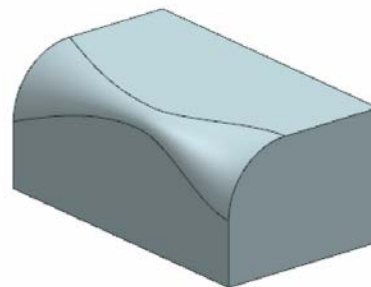

Figure 6-70 The variable radii fillet
6. Similarly, specify multiple points and then radius value at each point. Figure 6-70 shows the variable radii fillet created on the edge.